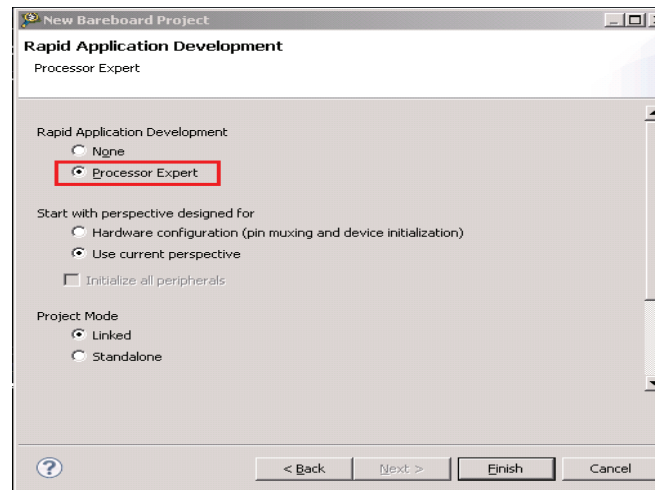

Figure 14. Select Processor Expert
- Select Processor Expert then select Finish (see Figure 14).